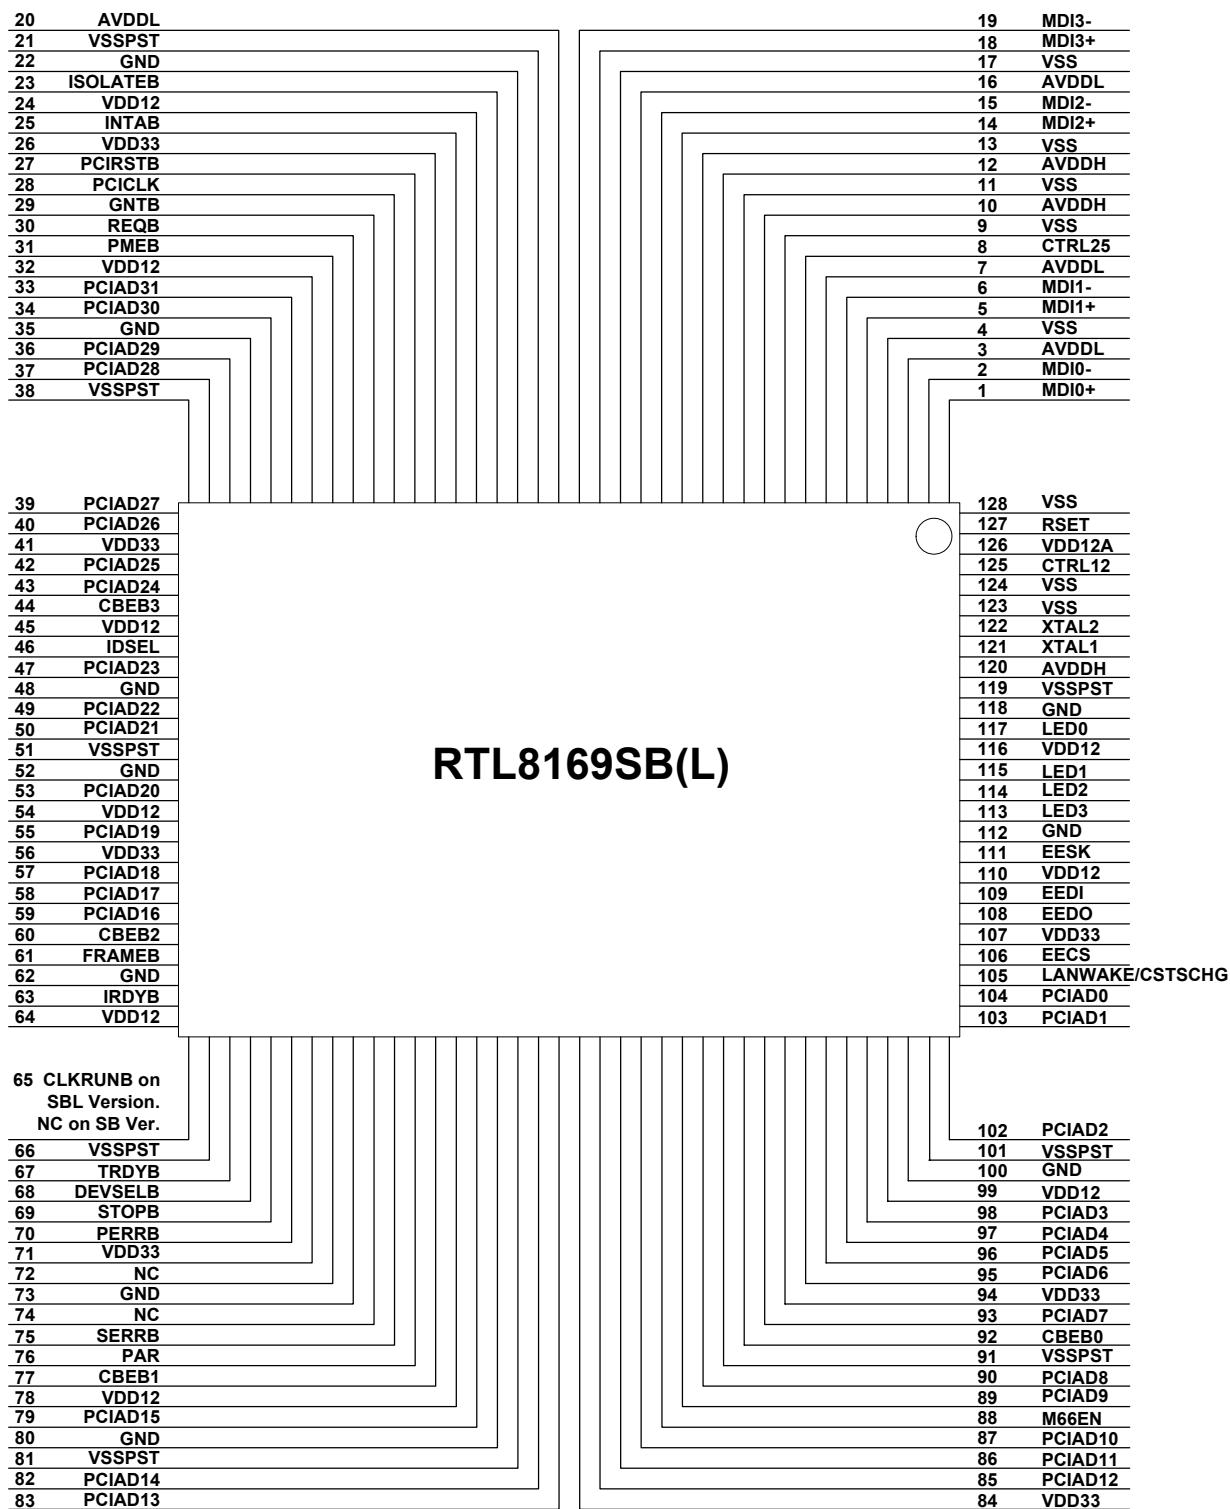

Figure 1. RTL8169SB(L) 128-Pin (L)QFP Pin Assignments
| FIGURE 1. | RTL8169SB(L) 128-PIN (L)QFP PIN ASSIGNMENTS..... | 3 |